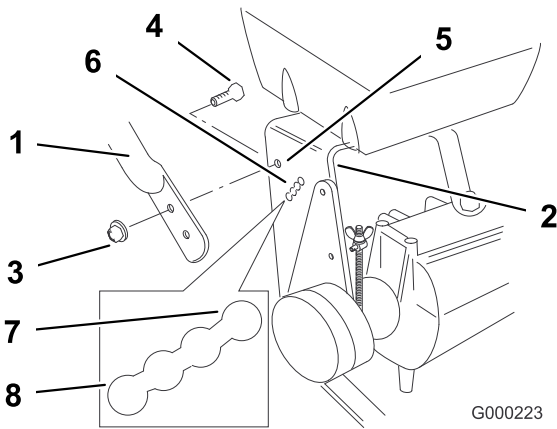

Figure 3
1. Align handle with upper mounting holes in rear frame (Figure 3).
2. Secure the handle at each upper mounting hole with a flange bolt (3/8 x 1 inch) and flange nut (3/8 inch)(Figure 3).
3. Select the low position for the lower mounting hole (Figure 3).
4. Secure the handle at each lower mounting hole with a flange bolt (3/8 x 1 inch) and flange nut (3/8 inch)(Figure 3).